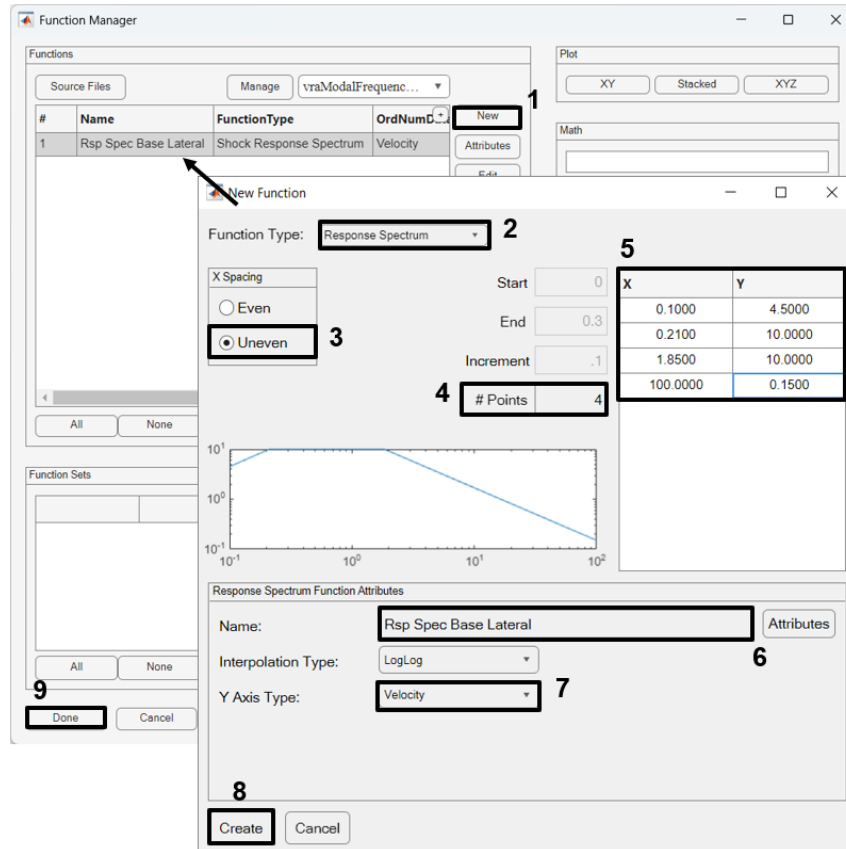
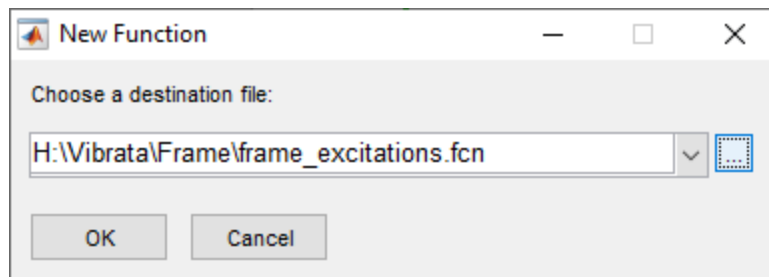

Figure 4-79. Define a Response Spectrum velocity function.
Figure 4-80. Store the new function in the frame excitations file.
5. In the Function Manager, use the Source Files button to open the "frame_excitations.fcn" file from section 4.2.3. (If you have not created that file yet, you will do so here when you finish defining the response spectrum function.) Define a new velocity response spectrum function as shown in Figure 4-79. Click the **Create** button and store the function to "frame_excitations.fcn" (Figure 4-80). Click **Done** on the Function Manager main dialog to return to the Event Manager.